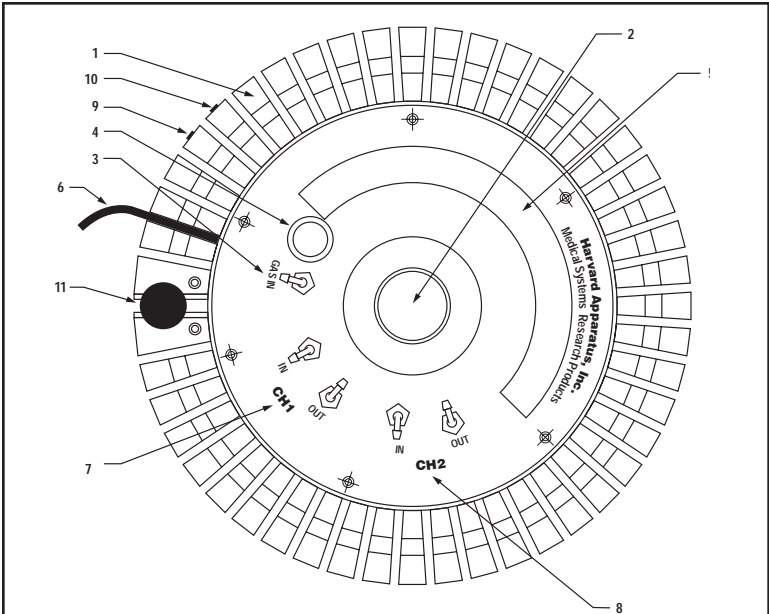

Figure 1. Top View of PDMI-2
Plastic Perfusant Tubes	Teflon™ tubing (see #7 & 8 in Figure 1 on page 6)
The Open Perfusion Micro-Incubator (PDMI-2) is an annular shaped assembly (see Figure 1, page 6) surrounding the central chamber (either a disposable plastic 35 mm Corning™ Petri dish or the reusable Cover Slip Dish 35 mm Ø).
1. The lower plate assembly (black aluminum plate) has a flat bottom surface to which the appropriate alignment ring is attached to form a mating surface with the microscope. This lower assembly serves also as a radiator of Peltier pumped heat via radial cooling fins (see Figure 1, page 6) on its outside diameter.
Note on Orientation: Any references to right and left assume the unit is viewed as in Figure 1 from above with the electrical cable to the left (see Figure 1, page 6).
- a. **Salt Bridge Ground:** The Ag/AgCl disc in a salt bridge well (see #3, Figure 1, page 6) is connected to a small 1 mm diameter white color socket (see #10, Figure 1, page 6). This allows grounding of the recording chamber via an integral agar/salt bridge.
- b. **Shield Ground:** A small 1 mm diameter green color socket (see #9, Figure 1, page 6) connected to the cable shield and aluminum components of the PDMI-2. Connecting this to a local ground can sometimes reduce 50/60 Hz interference.
Outlet from the chamber is by direct suction. The included aspirator (LU-ASP) was originally developed by Dr. Can Ince, University of Leiden, for patch clamp applications. The design of this aspirator cleverly avoids fluid level variations (a source of electrical noise) in electrical recording experiments. The aspirator has a magnetic base to grip a matching magnetic surface (see #5, Figure 1, page 6) on the top of the top plastic plate of the PDMI-2. Connect up a source of suction with a liquid trap to this aspirator. The level of fluid in the chamber is determined by the height of this aspirator and can be changed with its thumbscrew. The oscillations inherent in any peristaltic perfusion are easily damped with bubble-traps. Such traps also allow the independent chamber grounding required for low noise electrical recording.
The Ag/AgCl disc in the chamber ground can be pretreated for minimum DC offset and noise. Pre-fill the plastic well (see #3 in Figure 1, page 6) in the PDMI-2 with the desired salt solution and let it soak for 2 to 4 hours. A faster method is to immerse a silver wire in the filled well and apply an AC voltage between it and the white lead of the PDMI-2. A two minute application (60 Hz) is sufficient with no more than a few milliamps (preferably at 400 Hz or higher). With frequent use, the Ag/AgCl disc may occasionally require replacement. Return your PDMI-2 to Harvard Apparatus for Ag/AgCl disc replacement (see General Information, page 2).